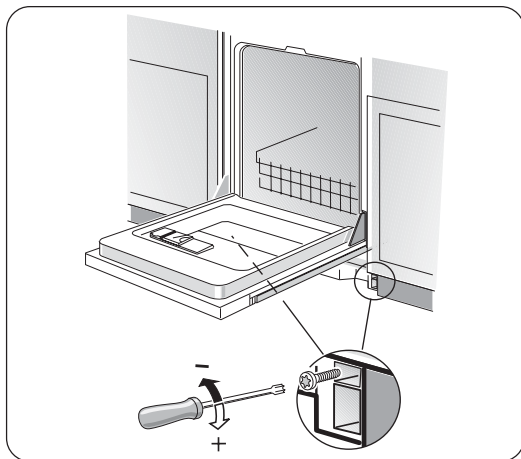

Figure 31
- 2 Insert the screws as shown in **Figure 31**. Turning the screw clockwise increases the spring tension.